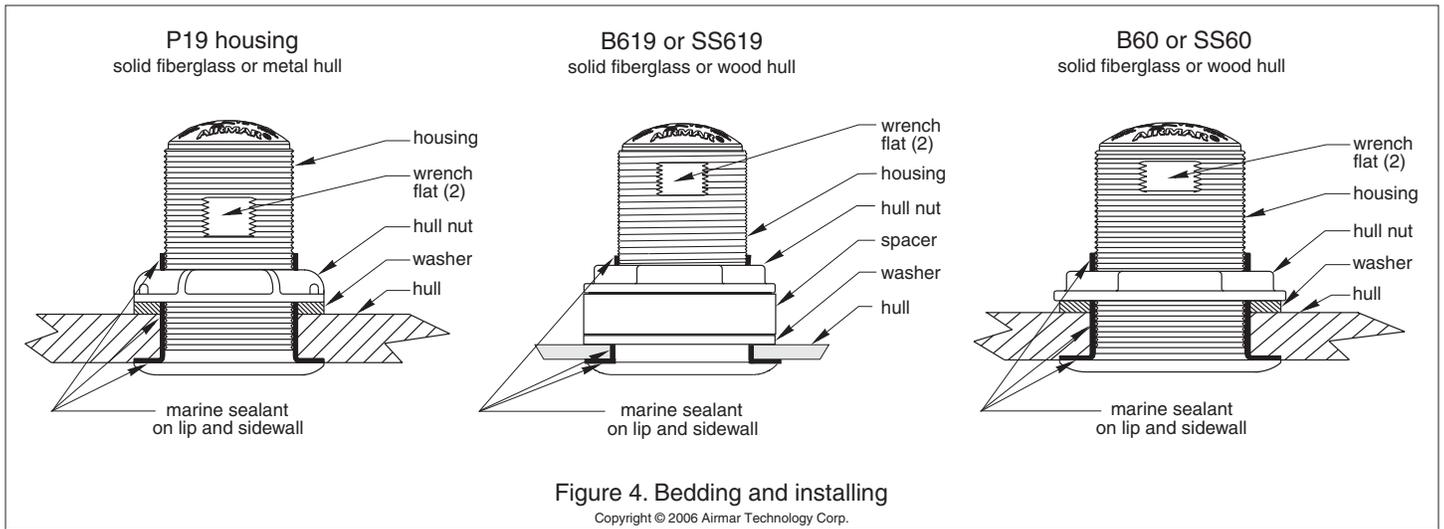

Figure 4. Bedding and installing
Apply a 2mm (1/16") thick layer of marine sealant around the lip of the housing that contacts the hull and up the sidewall of the housing (see Figure 4 or 5). The sealant *must* extend 6mm (1/4") higher than the combined thickness of the hull, washer(s), and the hull nut. This will ensure there is marine sealant in the threads to seal the hull and to hold the hull nut securely in place.
- Slide the washer onto the housing (see Figure 4 or 5).